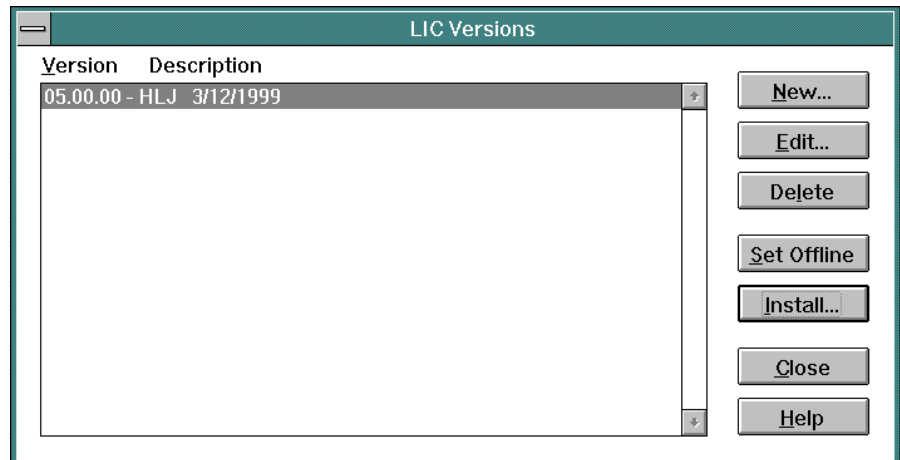

Figure 173. LIC Versions Dialog Box
2. Type a maintenance authorization password (default is **LEVEL002**) and click the *OK* button. The *LIC Versions* dialog box appears (Figure 173).